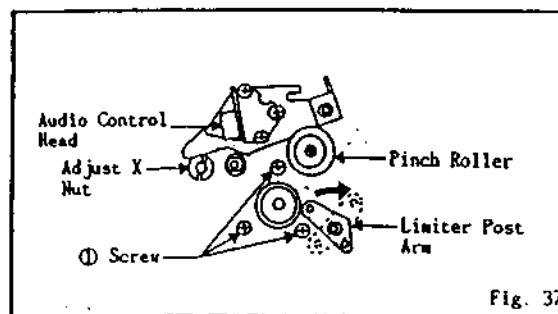

Fig. 37
2. Remove the 3 screws ① (SEMS-A 2.6x6) held to DD unit on front of the Deck. (Fig. 37)
1. Return the Limiter Post to the dotted line, then fit new DD unit to the chassis without touching center of the shaft of the DD unit to the chassis. Return the Limiter Post to where it was. (Fig. 37)